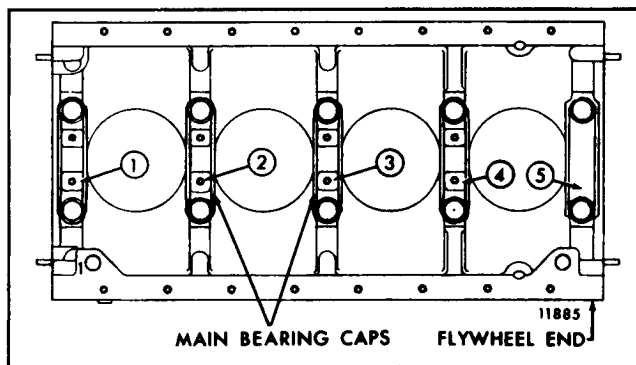

Fig. 15 - Typical Cylinder Block Markings
cap is also stamped on the face of the oil pan mounting flange of the cylinder block, adjacent to its permanent location in the engine as established at the time of manufacture. The No. 1 main bearing cap is always located at the end opposite the flywheel end of the cylinder block (Fig. 15). Lubricate the bolt threads and bolt head contact areas with a small quantity of International Compound No. 2, or equivalent. Then, install and tighten the bolts to the specified torque. When making this check, do not install the main bearing cap stabilizers. The specified bore diameter is 3.251" to 3.252" (In-line engine) or 3.751" to 3.752" (V-type engine). If the bores do not fall within these limits, the cylinder block must be rejected.
2. If a new service replacement block is used, stamp the engine serial number and model number on the upper rear corner of the In-line block or the top right-hand corner of the V-type block. Also, stamp the position numbers on the main bearing caps (Fig. 15) and the position of the No. 1 bearing on the oil pan mounting flange of the block.